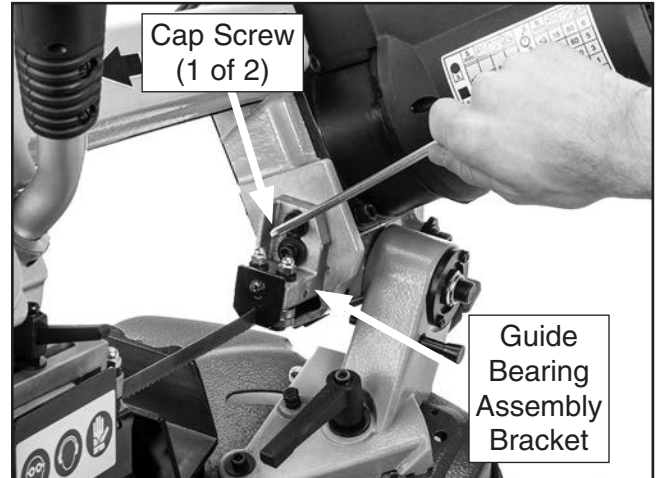

Figure 34. Cap screws for adjusting blade-to-table squareness.
- If blade *is not* square to table, loosen cap screws (2) shown in **Figure 34** one to two turns on right guide bearing assembly.